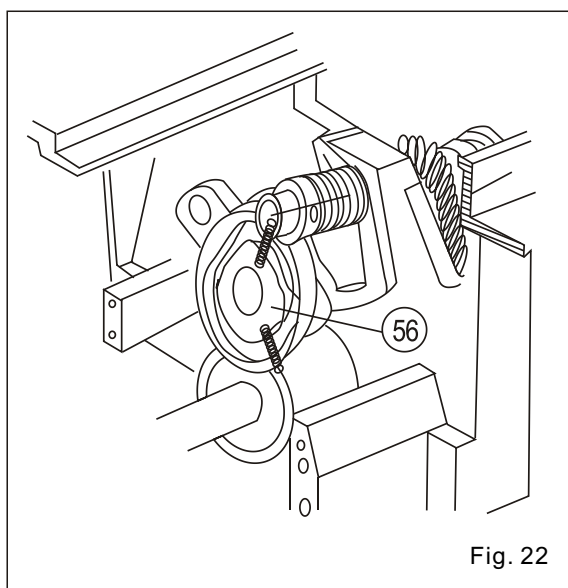
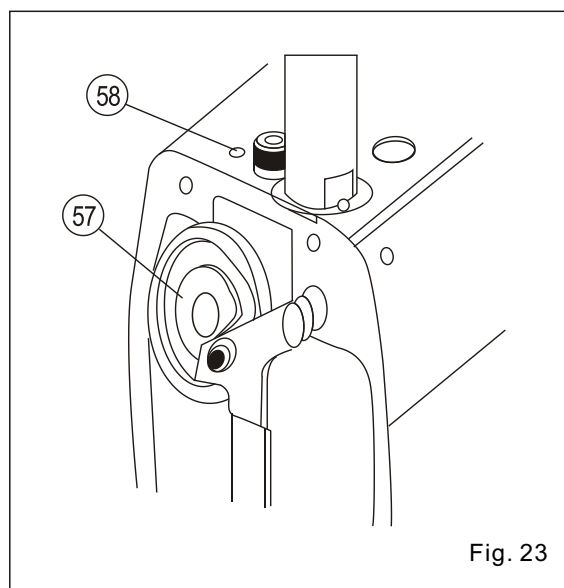

Fig. 22
Fig. 23
(1) Make the cam (No. 56 in Fig. 22) positioned in a place vertical to the machine. Turn the handwheel to make the second screw of thread tension cam (No. 56 in Fig. 22) moving toward the rotating direction, as indicated in Fig. 22.
(2) When the cam (No. 56 in Fig. 22) has been in this position, make the second screw to the rotating direction of the cam (No. 57 in Fig. 23) of upper thread hook in a straight line with the hole on machine casing (No. 58 in Fig. 23), as indicated in Fig. 23. The screw will stop here temporarily for preparation of synchronous adjustment.
The needle bar is maintained at the abovementioned position. Keep the control cam (No.57 in Fig. 23) running along with the rotating direction of the machine to the hook point, and it shall be 1mm higher than the needle point. Insert the turnbuckle from the hole on machine casing (No.58 in Fig. 23), as indicated in Fig. 23.